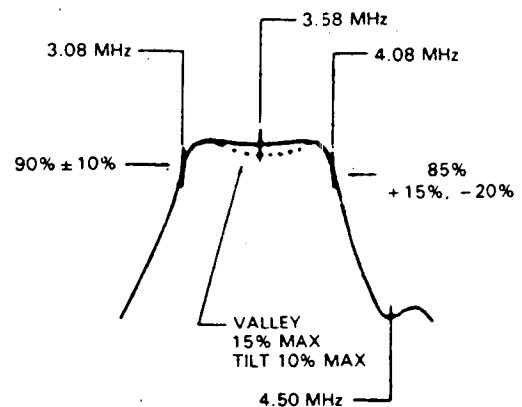

Fig. 24. Frequency Response Measurement.
#### Frequency Response Measurements (Refer to Fig. 24)
1. Connect the audio or rf output of the sweep generator to the input of the circuit under test and the output of the test circuit to channel 2 (vertical axis) of the oscilloscope. A demodulator probe will give a "text book" frequency response display as shown in Fig. 24, but a standard probe can be used which will result in an envelope display.